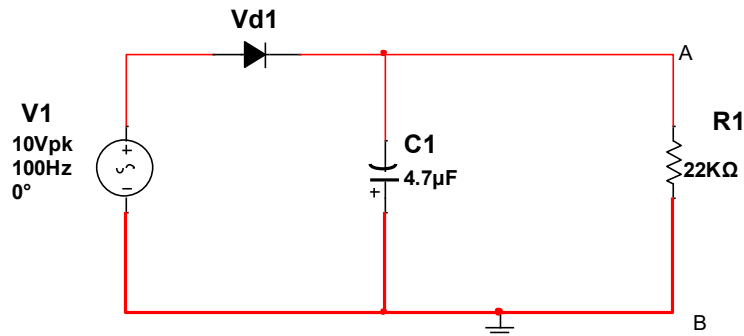

Figure 2: Zener Diode Voltage regulator Circuit
1. Connect the following circuit in figure 2, and show on the oscilloscope V1 and Vo and record the AC and DC (Ripple) components of Vo.